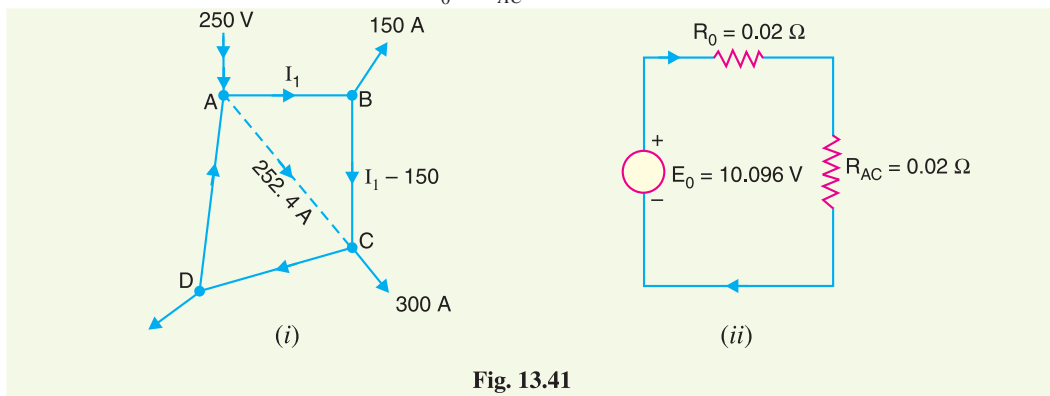

Fig. 13.41
**With Interconnector.** Fig. 13.41 (i) shows the ring distributor with interconnector  $AC$ . The current in the interconnector can be found by applying Thevenin's theorem.
Thevenin's equivalent circuit is shown in Fig. 13.41 (ii). Current in interconnector  $AC$